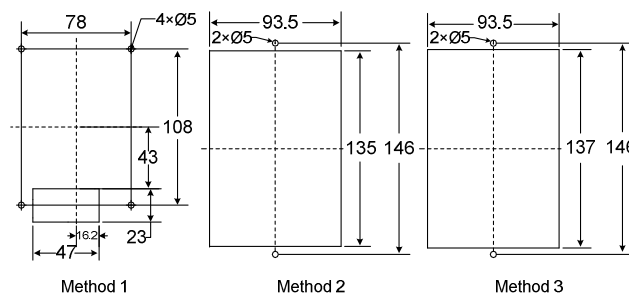

Figure 2 Mounting and hole dimensions
- Using self taper screws to fix the keypad on the back of the four corners. The hole spacing and hole dimensions as shown in method 1 of figure 2.
- When the panel thickness is less than or equal to 1.2mm, the rectangle hole on the panel required for mounting the keypad should be 135mm X 93.5mm. Fix the keypad using clips on the keypad. Make two $\varnothing 5$ holes on the panel and use the M5 screws and nuts (supplied) as shown in method 2 of figure 2.
- When the panel thickness is greater than 1.2mm, the rectangle hole on the panel required for mounting the keypad should be 137mm X 93.5mm. Fix the keypad using clips on the keypad. Make two $\varnothing 5$ holes on the panel and use the M5 screws and nuts (supplied) as shown in method 3 of figure 2.